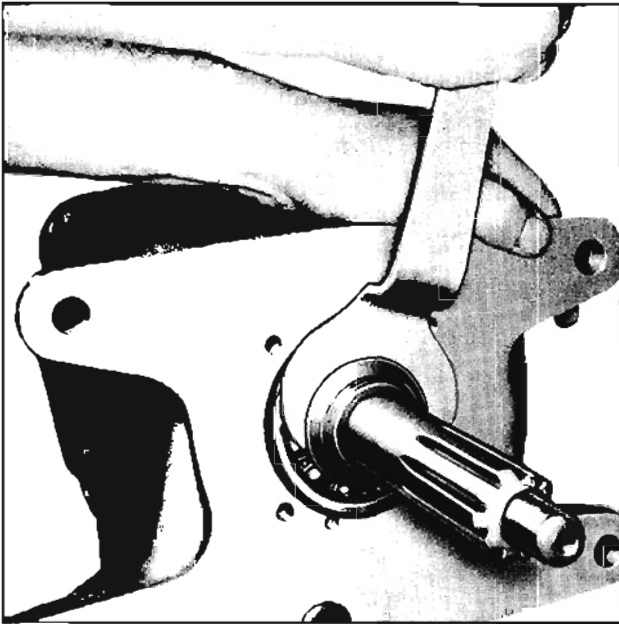

Fig. 7-206 Removing Main Drive Gear Retaining Nut
3. Remove the main drive gear retaining nut (Fig. 7-206) using Tool J-0933, after locking up transmission by shifting into two gears.
4. With transmission gears in neutral, drive lock pin from reverse shifter lever boss as shown in (Fig. 7-206), and pull shifter shaft out about 1/8". This disengages the reverse shift fork from reverse gear.